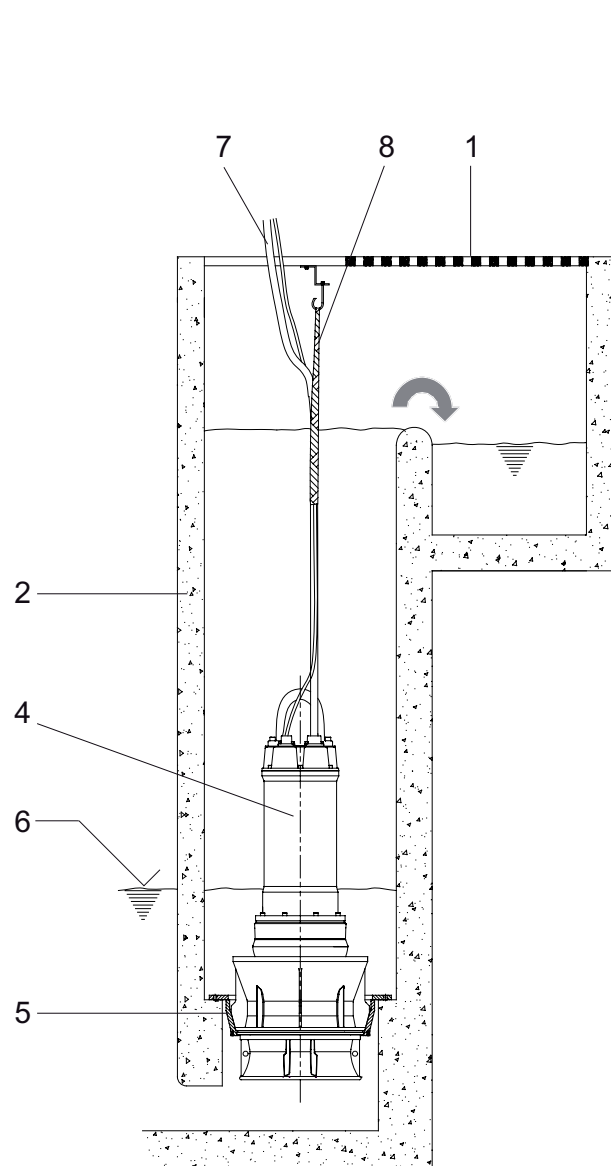

Figure 28 VUP/AFL in a concrete sump
2. Installation in a concrete sump in accordance with *Figure 28*